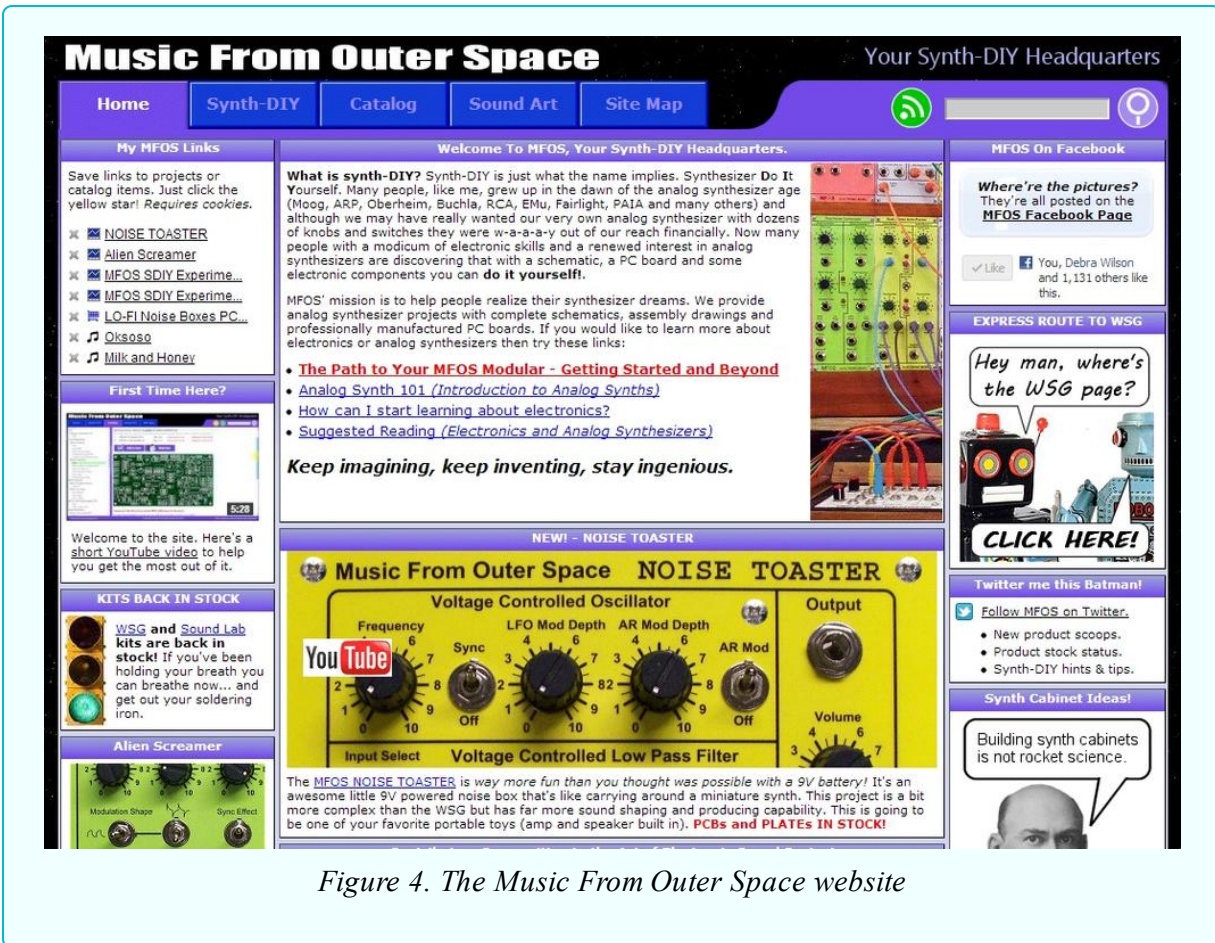

Figure 4. The Music From Outer Space website
The name *Music From Outer Space* (also known as MFOS) was inspired by the fact that space program-related research was instrumental to the successful development of transistor and integrated circuit (IC) technology. Eventually, the technology trickle-down brought highly reliable, reasonably priced electronic components, transistors, and ICs to the masses. Today, MFOS is a popular website visited by synth-DIYers the world over (Figure 4 is a screenshot from the website).